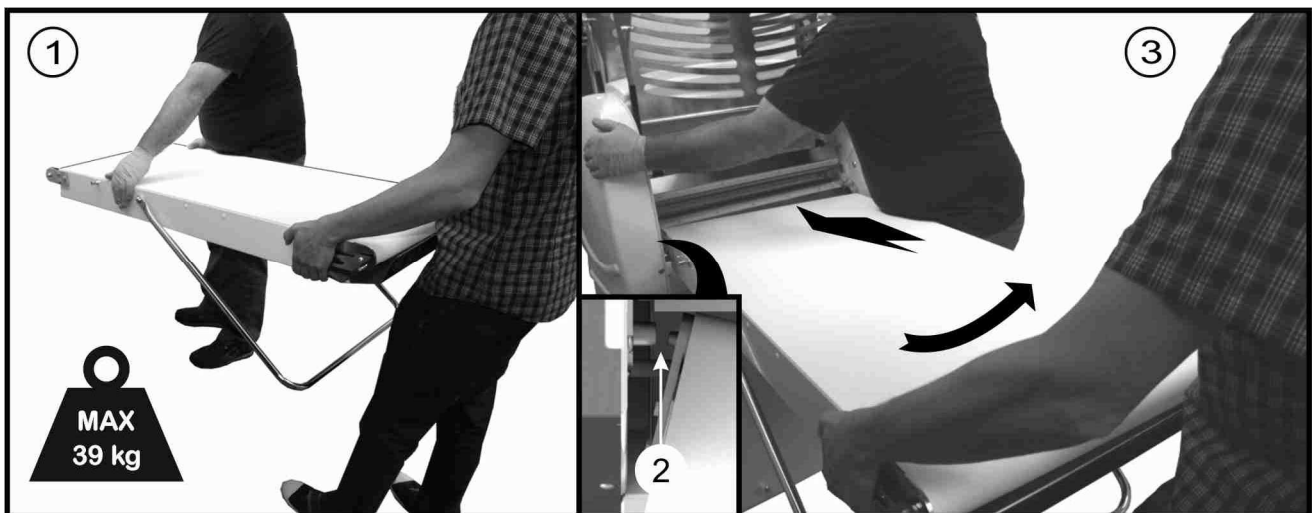
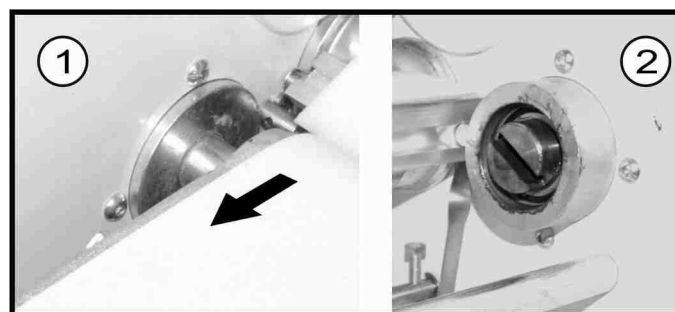

Figure 11
Figure 12
To correctly assemble the tables, two people must operate as described hereafter and in accordance with Figure 11 and Figure 12:
- Lift the table as illustrated in ref. 1 Figure 11. Pay attention to the grease on the two pins ref. 1 and 2 Figure 11
- Centre the back pin ref. 2 to Figure 11 in the corresponding support located on the back shoulder
- While the operator positioned outside holds the weight of the table, the second operator grabs the machine's shoulders and uses his hip to push the table, as per ref. 3 in Figure 11, in the direction indicated by the arrow (towards the back wall)
- At the same time, the other operator must slightly rotate the table, as indicated by the arrow, to insert the pulling pin ref. 2 Figure 12
- Gently move the belt in the direction indicated by the arrow ref. 1 Figure 12 so as to correctly insert it inside the slot, until you hear a clicking sound and the belt locks in position